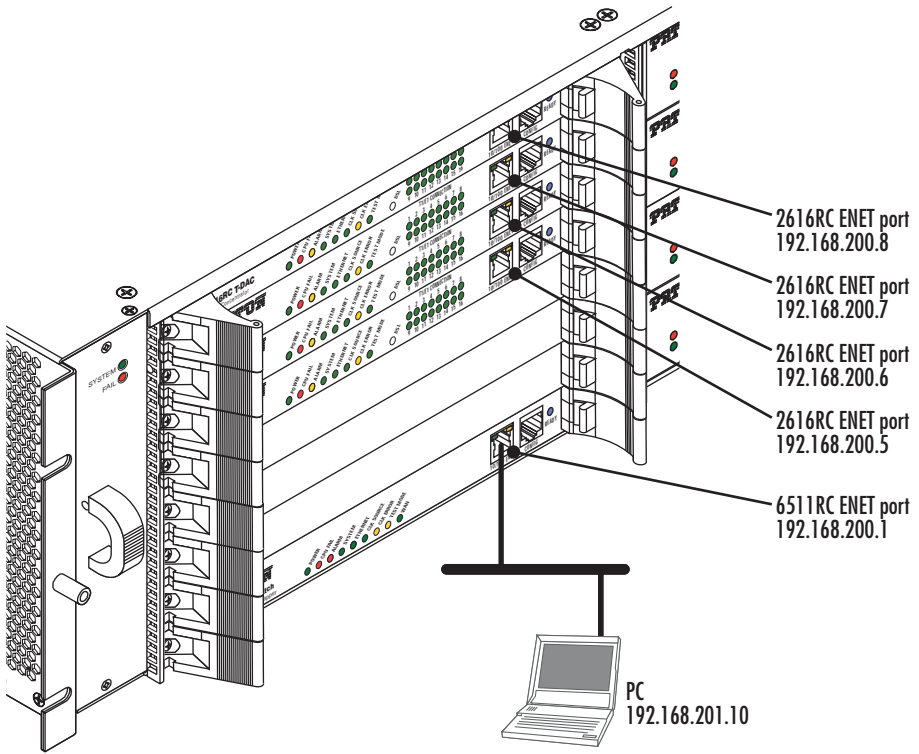

Figure 2. ForeFront Router bundle setup—Model 6545/1S64E Series
2. Connect the RJ45–RJ45 cable included with your ForeFront Router bundle between your PC and the front panel Ethernet port of the Model 6511RC (bottom slot) (see figure 2).